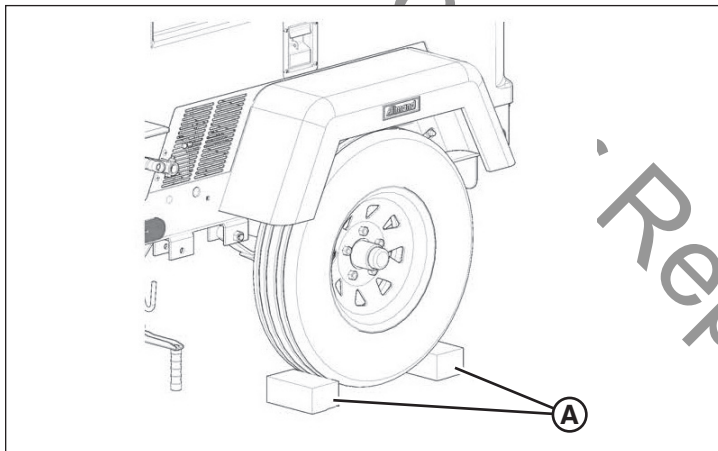

Figure 13
2. Block each wheel on each side with a suitable wheel chock (A, Figure 13).